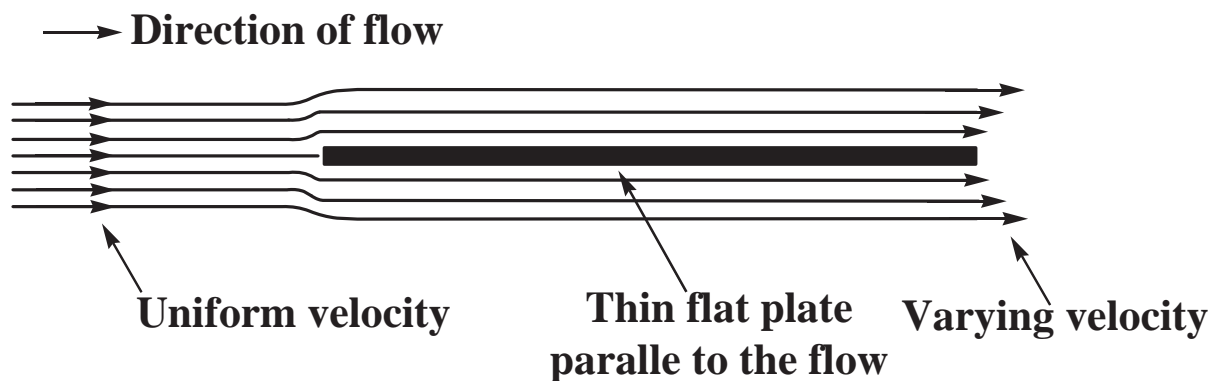

Figure 8: Flow past immersed flat plate.
- When wall of the body is parallel with the direction of flow (see Figure 8 below) the